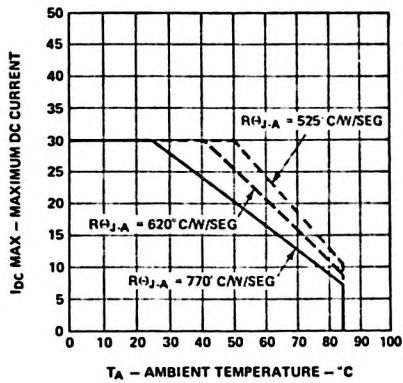

Figure 1. Maximum Allowable Average Current per Segment as a Function of Ambient Temperature
2. Derate maximum average current above $T_A = 25^\circ\text{C}$ at $0.38\text{ mA}/^\circ\text{C}$ per segment, see Figure 1.